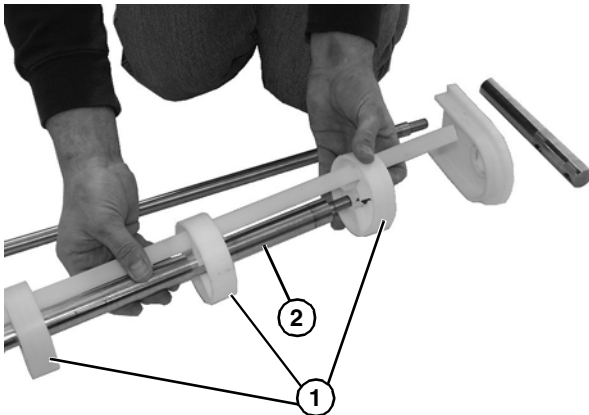

Figure 66
2. Slide all the idler pucks (Figure 66, item 1) along with alignment bar onto idler shaft (Figure 66, item 2).